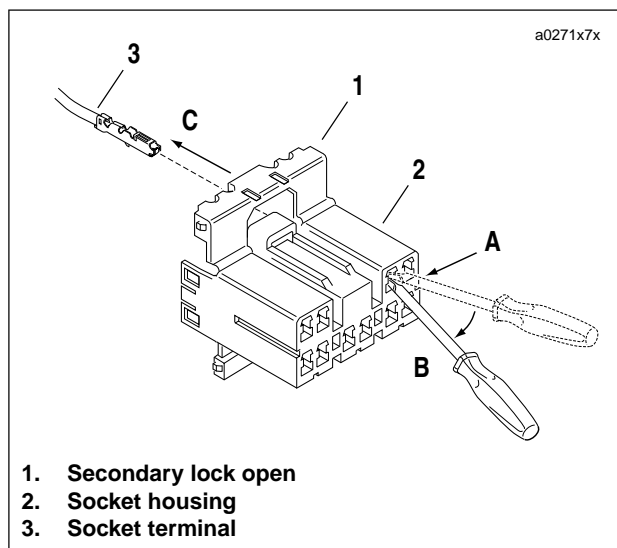
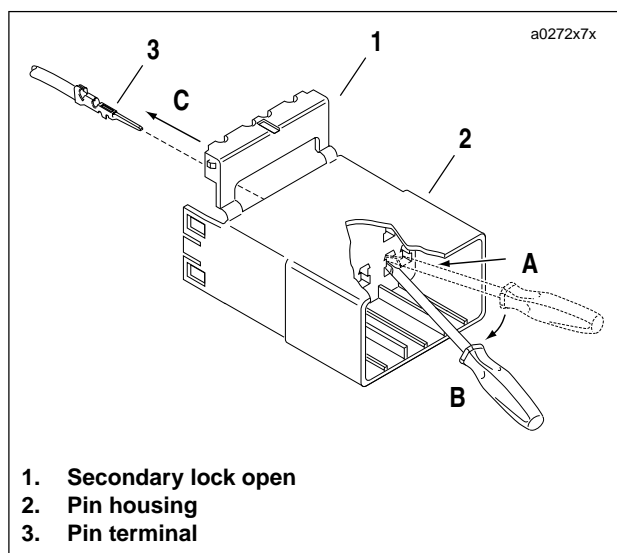

Figure B-6. Socket Terminals
Figure B-7. Pin Terminals
7. Remove socket terminal (Figure B-6.) or pin terminal (Figure B-7.)
a. If installing socket terminals, see Figure B-6.
b. If installing pin terminals, see Figure B-7.